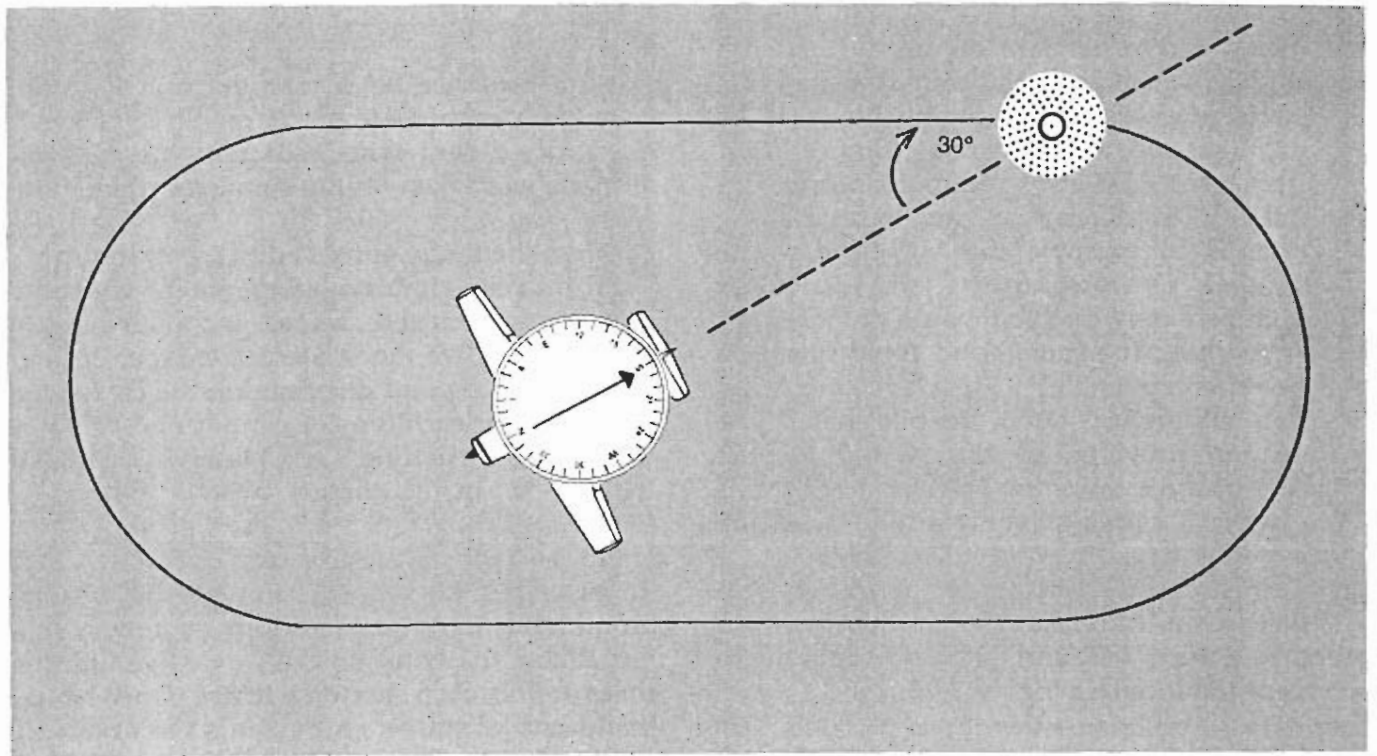

Figure 7-20
**The Teardrop Entry:** Cross the fix and choose the teardrop heading as in a hold at a VOR. The needle will initially be on the tail. The needle is on the tail any time you fly directly away from an NDB (figure 7-20).